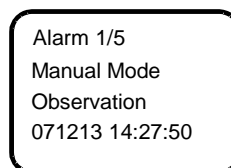

Figure 4-16 Active alarm screen
2. If there is an active alarm, the screen shown in Figure 4-16 will appear.
The Figure 4-16 screen includes alarm serial No./alarm total number, alarm name, alarm level and alarm time. The alarm generating time determines the sequence it is displayed, with the latest alarm displayed first. Use ▲ or ▼ to view all active alarms.